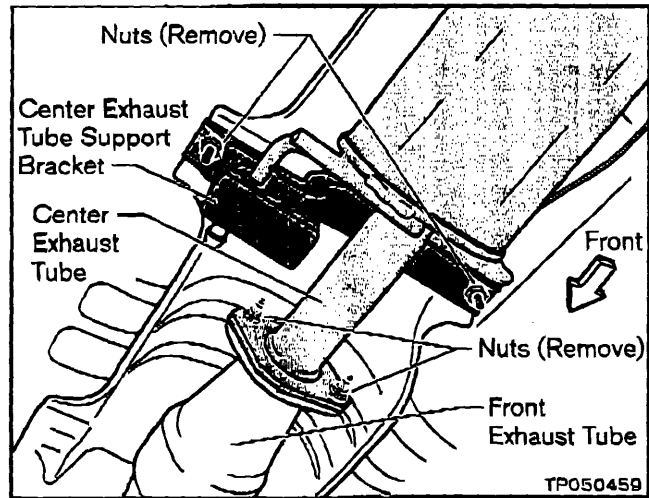

Figure 5
- a. Remove two Nuts that secure the Center Exhaust Tube to the Front Exhaust Tube (see Figure 5).
- b. Remove two Nuts and remove the Center Exhaust Tube Support Bracket (see Figure 5).